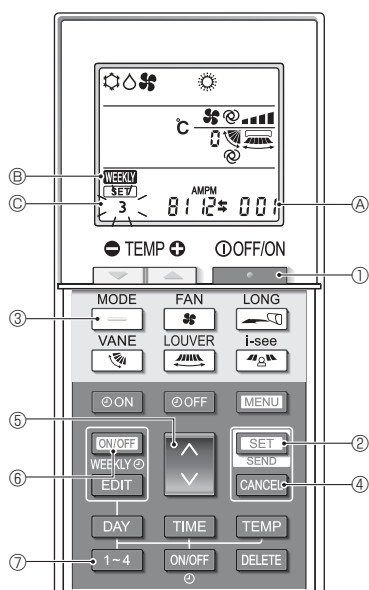
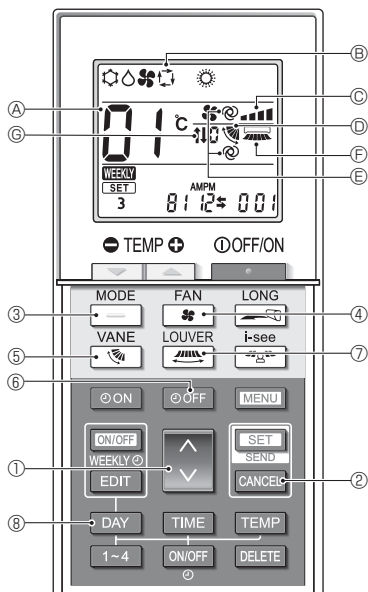

Fig. 5-1
Fig. 5-2
### 5.1. Switching to the function setting mode (Fig. 5-1)
#### 1) Operation mode setting (Fig. 5-2) (The factory setting is "Cool/Dry/Auto/Fan/Heat" [Setting number 01].)
#### 2) Fan speed setting (Fig. 5-2) (The factory setting is "4 speeds" [Setting number 01].)
#### 3) Airflow direction setting (Fig. 5-2) (The factory setting is "With vane, swing" [Setting number 01].)
#### 4) Auto fan speed and airflow direction display setting (Fig. 5-2) (The factory setting is "With auto fan speed and airflow direction" [Setting number 02].)
#### 5) Louver display setting (Fig. 5-2) (The factory setting is "Without louver" [Setting number 01].)
1. Perform the procedure in 5.1., and then press the button ⑦ for 5 seconds or more. (Fig. 5-1)
- The pattern number ⑪ blinks.
2. Press the button ⑧. (Fig. 5-2)
- The setting number ④ comes on.
3. Press the button ① to select the setting number ④. (Fig. 5-2)
### 5.5. Completing the settings (Fig. 5-1)